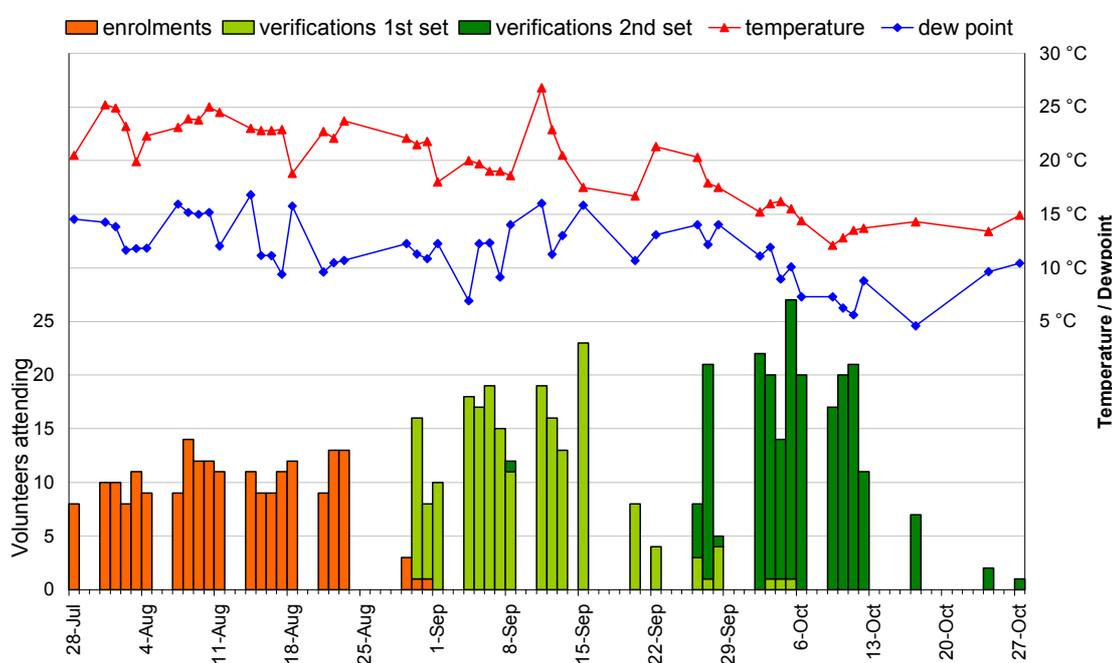

Figure 2. Environmental conditions during the trials
15. The temperature and humidity of the test laboratory were not controlled. Figure 2 indicates how outdoor temperature1 and humidity2 varied between the days of the trials
16. Figure 2 also shows the daily distribution of enrolment and verification transactions. On average the first set of verifications was made 29 days after enrolment, and the second set of verifications, 55 days after enrolment.